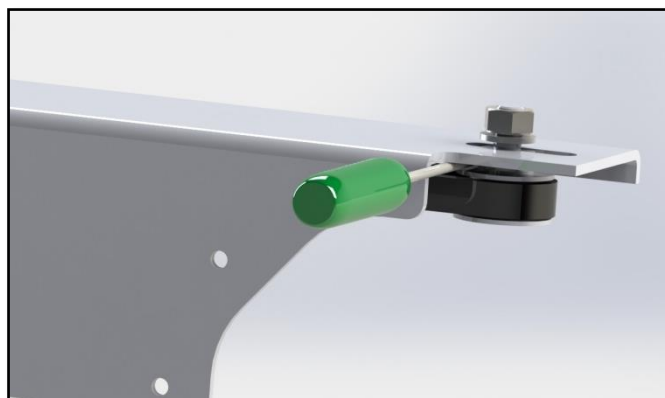

Figure 16 – adjusting the belt tension by using a chisel
7.5. Adjust the tension of the belt by pushing the angles or idler pulley further against the edge of the pilaster. One way to tension it is by using a chisel with a 3mm thick blade, and bends the tool carefully against the angle and against the idler pulley, so that the idler pulley is pressed against the frame. *See figure 16 below.*